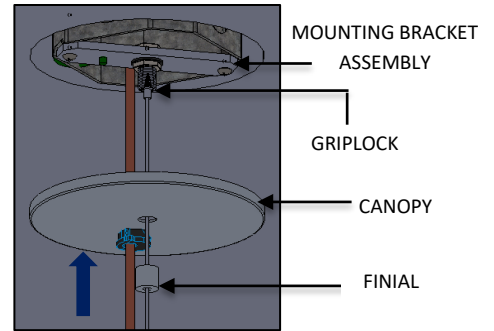

FIG. 23 - FINIAL INSTALLATION
14. Raise CANOPY and secure to ceiling by threading the FINIAL to the GRIPLOCK until fully seated as shown in FIG. 23.